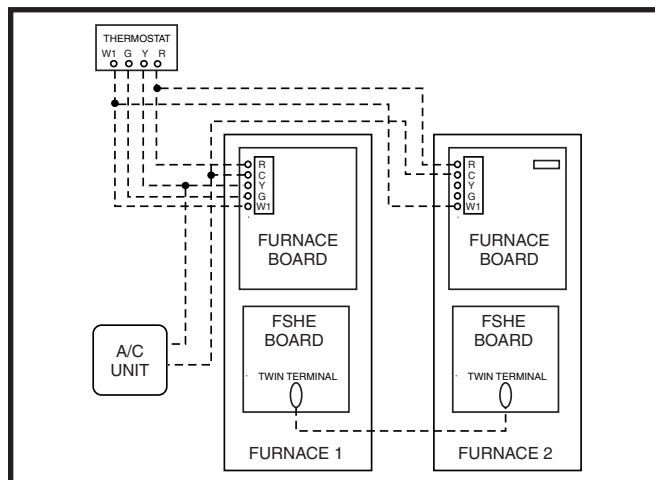

Figure 24. Twinning
- The thermostat wires and the 1/4 inch thick quick-connect terminals marked “**TWIN**” (Figure 24) on the furnace controls must be connected together.
The operating sequences for the heating, cooling, and fan modes are described below. Refer to the field and furnace wiring diagrams: (Figures 17-23, pages 21-23), (Figures 32-35, pages 39-42) and (Figure 24, page 24).